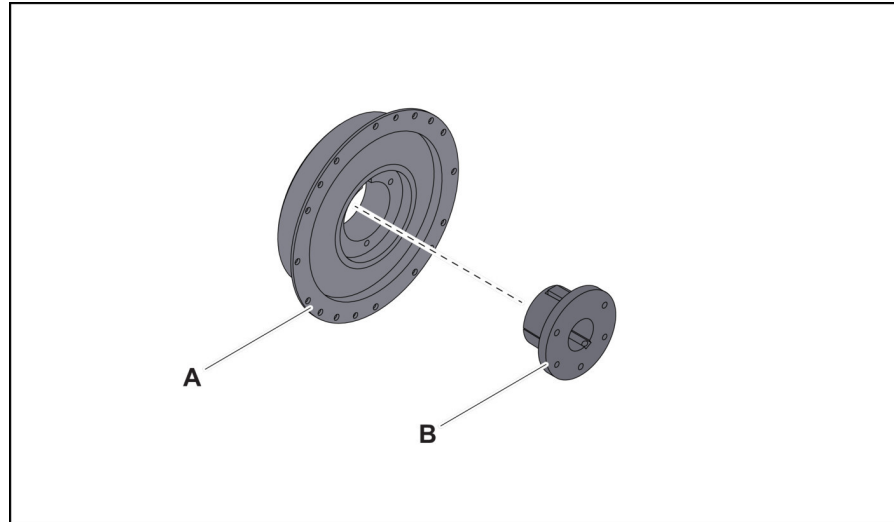

Figure 14
11. Slip the flange (Figure 14, item A) off of the coupling (item B) and store it aside for installation.